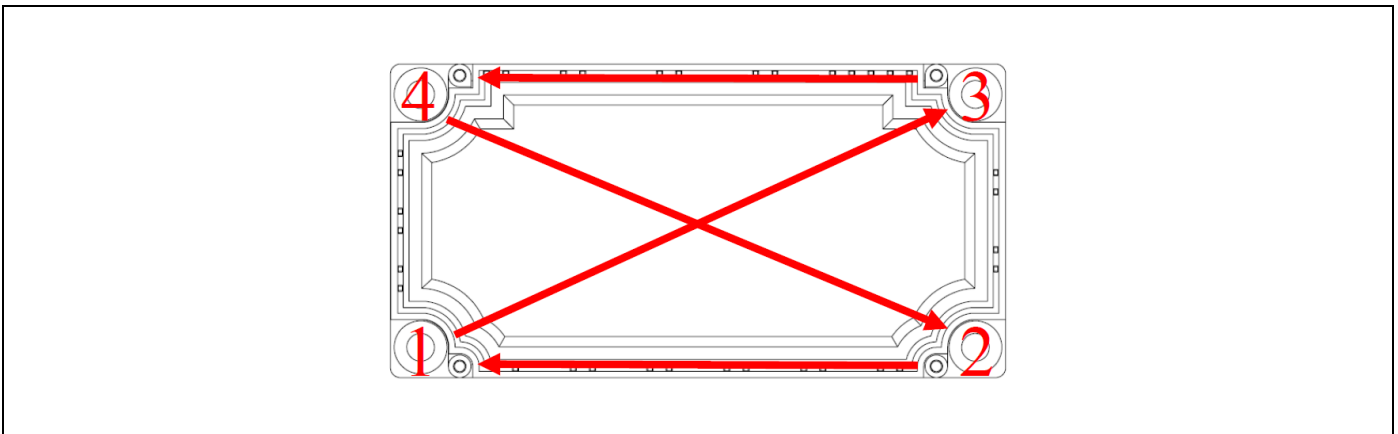

Figure 5: Fastening sequence on the heat sink.
1. It is recommended to mount the module on the heat sink in the following sequence: 1→3→4→2, as shown in the [Figure 5].